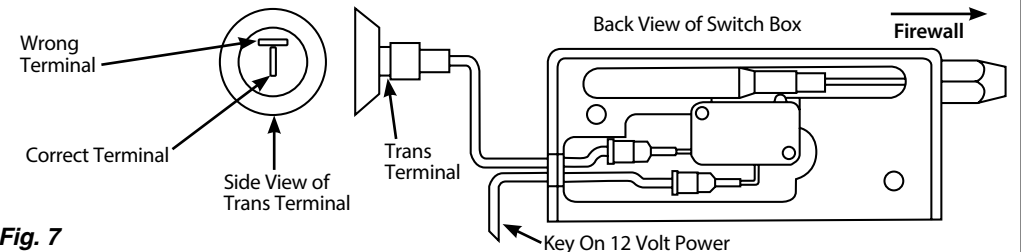

Fig. 7
Step 12: Connect one of the wires from the aluminum switch box to a switched power source with a 5 amp or greater fuse. Install the remaining large wire terminal onto the end of the other wire, and connect it to the **vertical** terminal on the detent solenoid on the transmission. **Fig. 7**